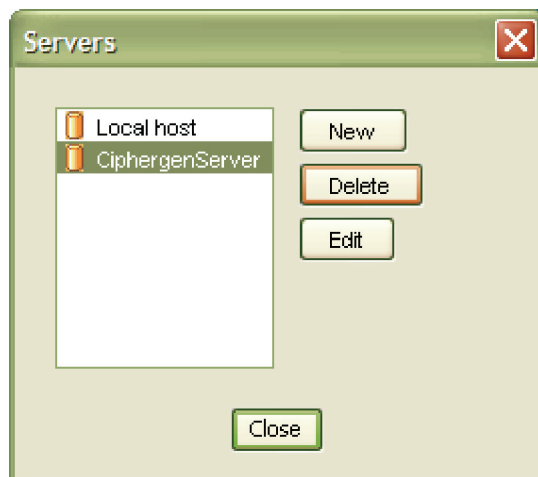

Fig. 29: The Servers dialog box.
2. In the **Login** dialog box, click the "... " button. This will open the **Servers** dialog box (Fig. 29).